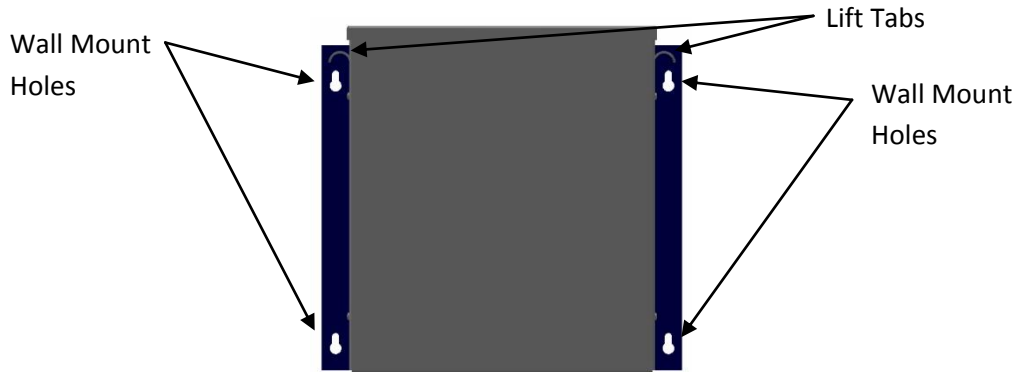

Figure 7: Transformer Mount Positions
Step 6: Mount the transformer via 3/8" diameter bolts using the existing four slots. See Figure 7 for details.